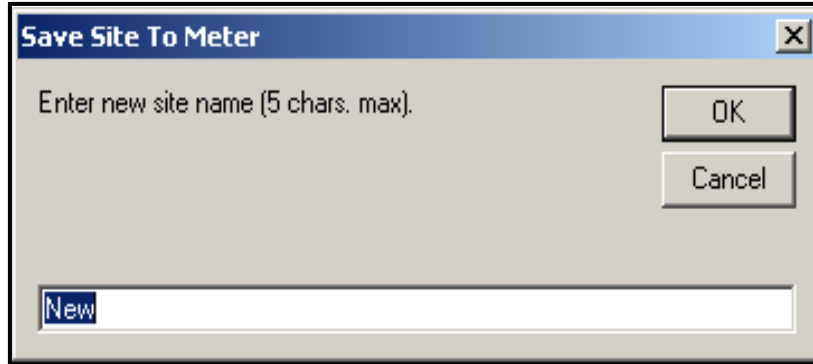

Figure 51: Site Name Entry Window
2. A window opens similar to *Figure 51*. Enter the desired name, and click [OK].